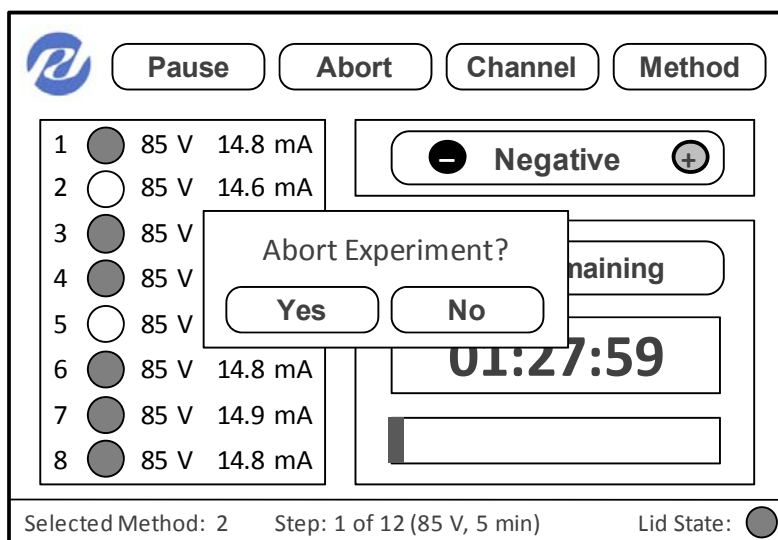

Figure 13. The GELFREE 8100 Fractionation Station. Abort Experiment.
5. To completely stop an experiment once it has been started, press the 'Abort' button on the Main Screen. A confirmation screen will appear (Figure 13). To abort, touch 'Yes' or touch 'No' to return to the Main Screen.